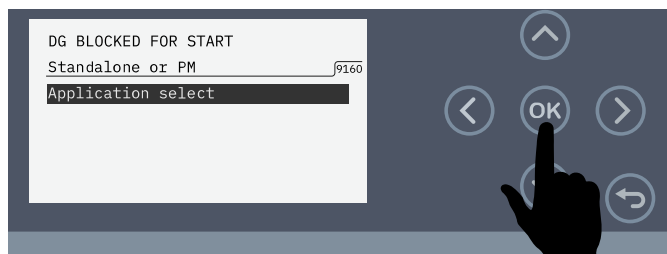

Figure 77. Select Application Select
6. Make sure **Application Select** is highlighted (Figure 77), then press the OK button.